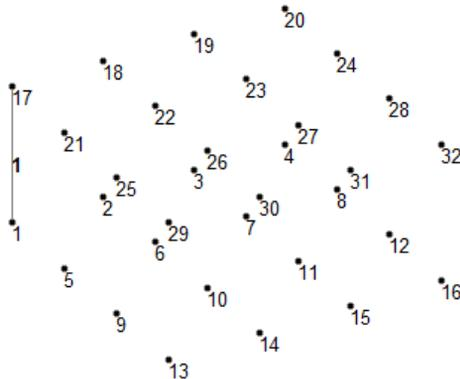

Figure 2-10 Member 1 created using commands
Step 3: After specifying the above command, choose the **Save** button from the **File** menu and close the **STAAD Editor** window; the member 1 will be created, as shown in Figure 2-10. Click on working area. Press SHIFT+B to view the member number.